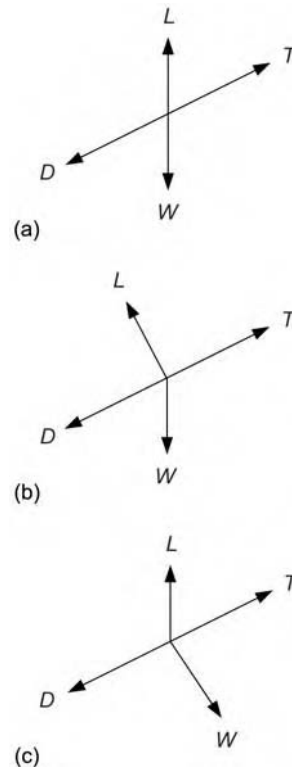

Figure 7.78
43. Which figure (Figure 7.78) correctly shows the relationship between the forces acting on an aircraft in a steady climb?